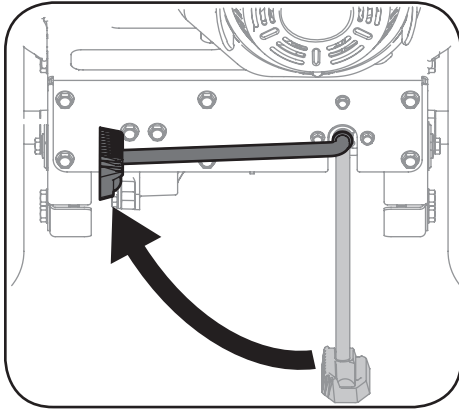

Figure 4-2
1. Roll the FLEX™ Power Base over to the log splitter attachment with the kickstand UP. See Figure 4-2.